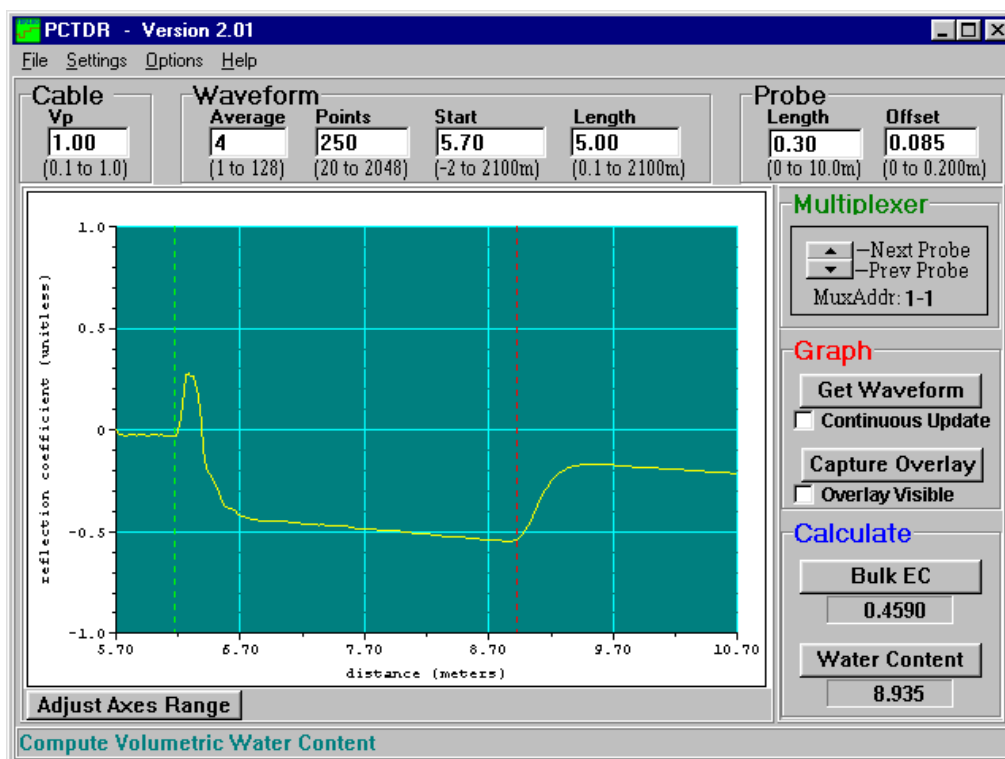

FIGURE 3-2. Waveform of CS610 in water after changing Start and Length parameters to display relevant portion of reflected signal.
Changing the *Waveform Start* value to 5.7 m and the *Waveform Length* to 5 m gives the waveform displayed in Figure 3-2.
*Start* - the apparent distance from the TDR100 to where the displayed waveform will begin (using *File/Save ASCII Waveform*). For water content measurements this value should be the apparent distance from the TDR100 to the beginning of the probe minus approximately 0.5 meter. Figure 3-2 is an example of the display when the correct start is chosen.